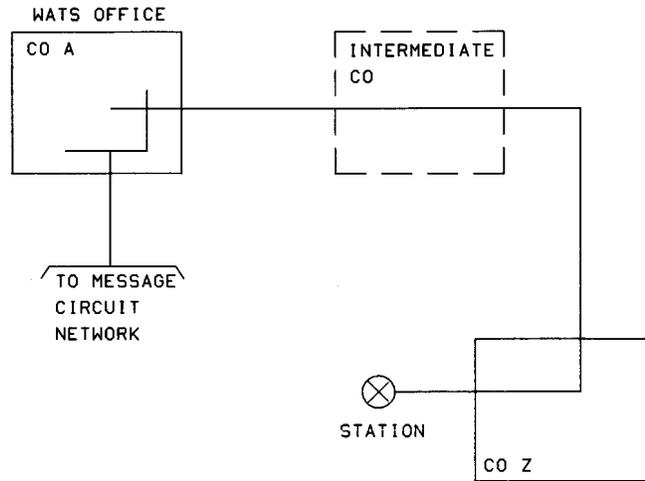

Fig. 3-4—Typical WATS Line
**3.10** A wide area telecommunications service (WATS) line (Fig. 3-4) permits a station to make calls to (or receive calls from) selected wide interstate or intrastate geographical regions called bands or service areas for a fixed monthly charge. WATS lines are available for the customer to call out (OUTWATS) or for the customer to receive calls (INWATS) but not both with the same CO appearance. The service may be unlimited or it may be restricted to a specific band or group of bands. Some customers are charged for the service only during certain hours of the day. Since not all COs are equipped for WATS, the access line connects the customer to the nearest WATS CO. This appears very similar to an FX line. When the serving CO is equipped for WATS the WATS line appears very similar to regular telephone service.